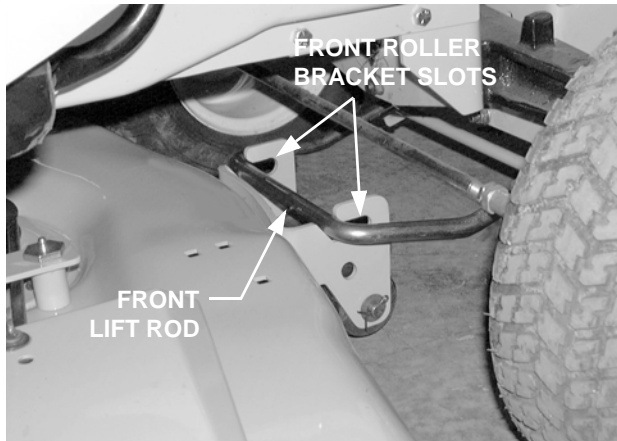

Figure 13
8. From the side of the tractor, raise the front lift rod and roll the deck forward until the lift rod aligns with slots of the deck front roller bracket. Lower the lift rod into the front roller bracket slots and slide the deck rearward to engage the lift rod fully forward in the slots of the roller bracket (See Figure 13).
- Roll the deck forward to disengage the front lift rod from the slots of the front roller bracket (See Figure 13). Hold the front lift rod upward and slide the deck rearward until the lift rod rests on top of the roller bracket.